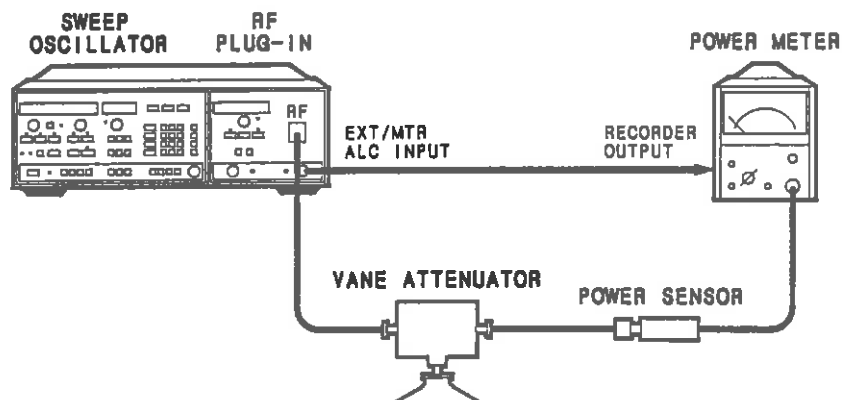

Figure 4-5. Power Meter Leveling Test Setup
9. Connect the equipment as shown in figure 4-5. Set the vane attenuator to 10 dB.